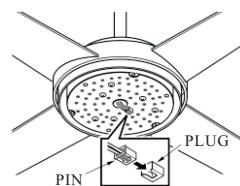

FIG.16
4. Connect the plug as drawing .(see Fig.16)